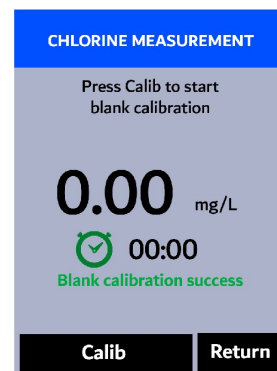

Figure 33.
12. The message "**Blank calibration success**" will appear on the bottom of the display (Figure 33).